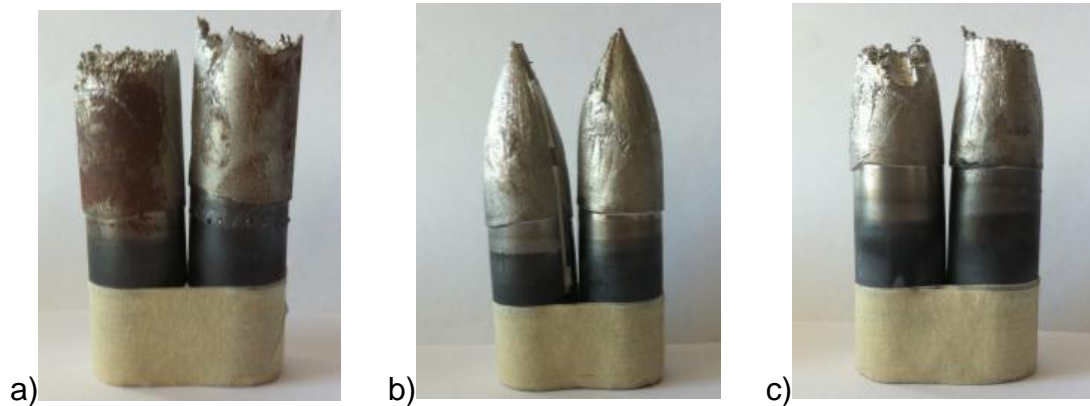

Figure 3: Hot tensile test specimens for different testing temperatures
- b) Figure 3 shows three specimen after testing at 950°C, 1200°C and 1500°C of material A. Which specimen belongs to the previous mentioned testing temperatures? (1.5 Points)